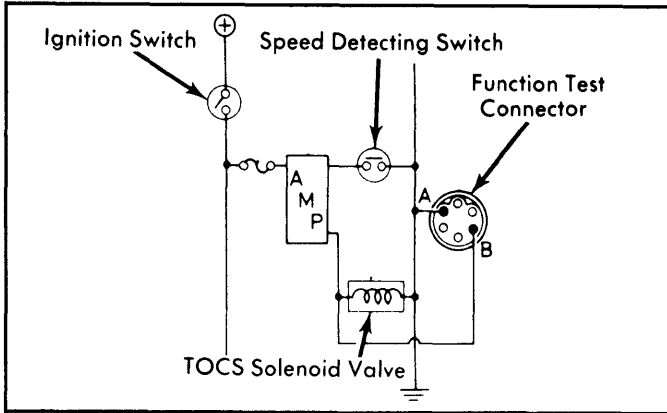

Fig. 2: 1977 TOCS System Schematic (Man. Trans.)
1975-78 Manual Transmission Models - 1) Check for continuity between terminals "A" and "B" of function test connector. See Fig. 2. With zero (0) voltage, continuity should exist between terminals. 2) Block front wheels and raise rear of vehicle. Start engine and gradually increase speed to above 10 MPH. Check voltage across terminals "A" and "B" at function test connector. 3) Voltage reading should be zero (0). If continuity and voltage readings are incorrect, check for faulty in-line fuse, poor connections, faulty amplifier, speed switch, or TOCS solenoid.